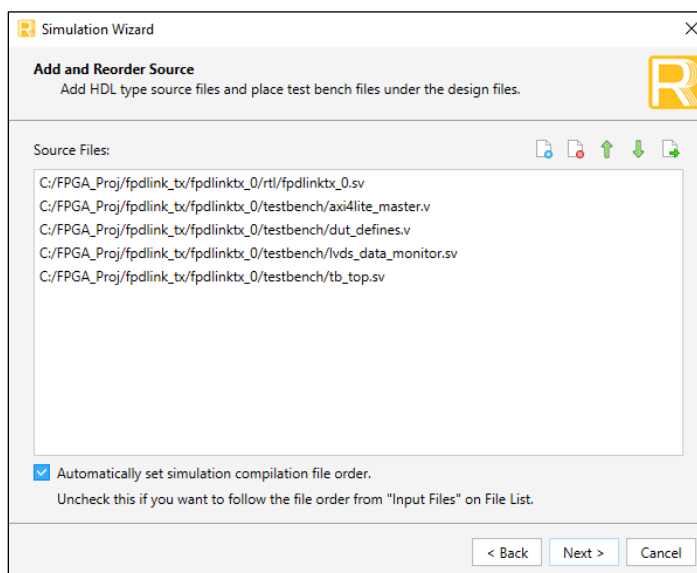

Figure 6.6. Add and Reorder Source
2. Click **Next** to open the **Add and Reorder Source** window as shown in Figure 6.6.